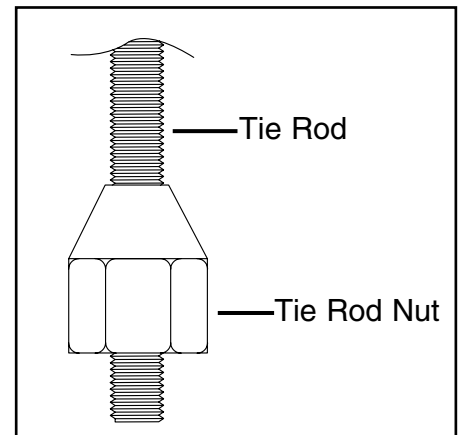

Figure 2. Draw Bar & Nut.
1. Remove existing spindle from the shaper by holding the top of the spindle with a wrench and remove the tie rod nut from the bottom of the spindle housing. **Figure 2.** Pull the spindle out of the spindle cartridge. Notice that the bottom portion of the spindle is identical to the bottom portion of the router bit spindle.